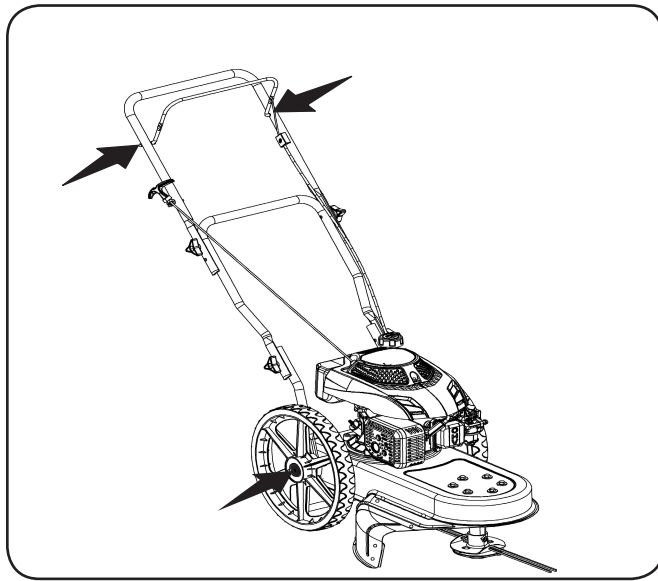

Figure 6-1
1. Lubricate pivot points on the control lever at least once a season with light oil. This control must operate freely in both directions. See Figure 6-1.
2. Lubricate the wheels at least once a season with light oil (or motor oil). If wheels are removed for any reason, lubricate surface of the axle bolt and inner surface of the wheel with light oil. See Figure 6-1.